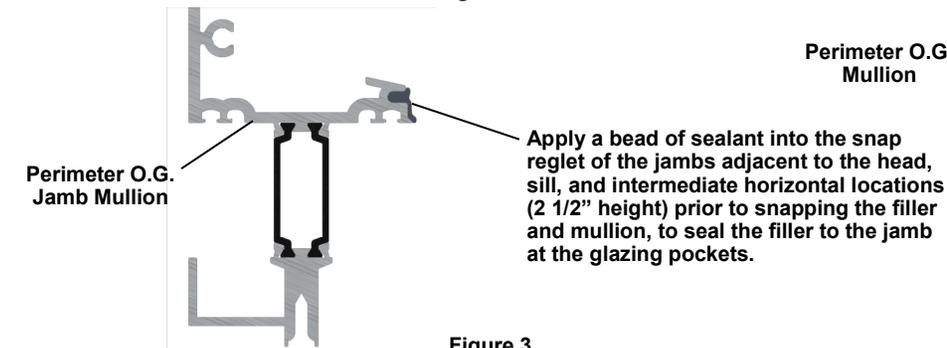

Figure 3
6. Seal the jamb as shown in Figures 3 thru 5 on page 17 at the horizontal locations, and snap the perimeter jamb mullion onto the filler portion of the assembled frame.